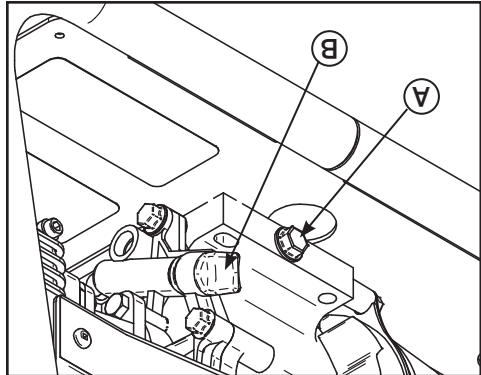

Figure 13
2. Unscrew the oil drain plug (A on figure 13).
5. Unscrew the oil filler cap/dipstick (B on figure 13).